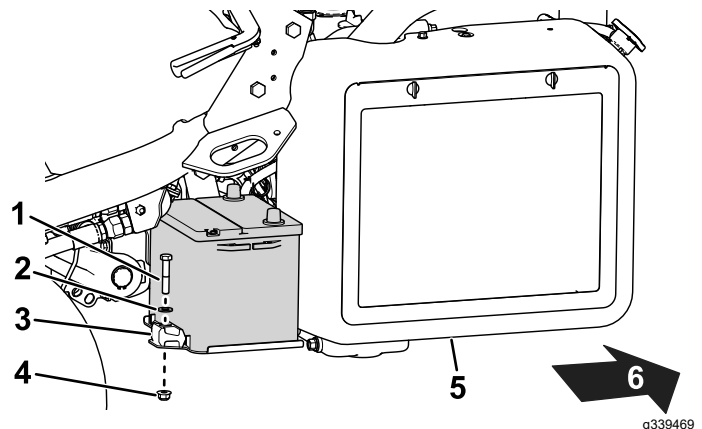

Figure 36
2. Remove the fasteners that secure the battery to the tray (Figure 36) and lift out the battery.
5. Place the battery on the battery tray and secure it with the previously removed fasteners (Figure 36).